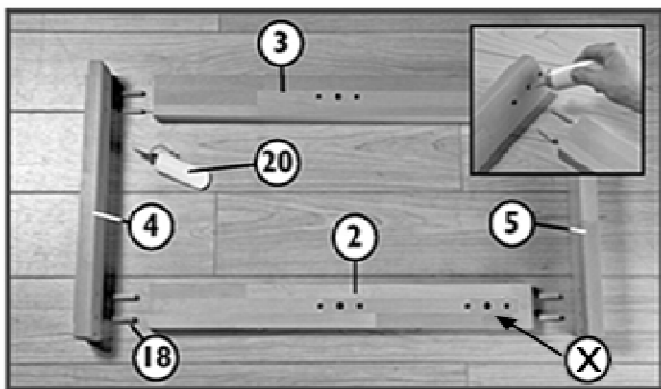

Fig. 1 X=holes for stretchers if cupboard is used
1. Place Base (5), Top Rail Support (4), Back Leg (3) and Front Leg with Bench Dog holes (2) with dowel holes facing inward as shown (Fig.1). Attach the Base and Top Rail Support to the Front and Back Leg using four dowels each (18) and Glue (20) for each. Use the inner holes. The outer hole on each side of the Top Rail Support will later be used to attach the Bench Top (1).